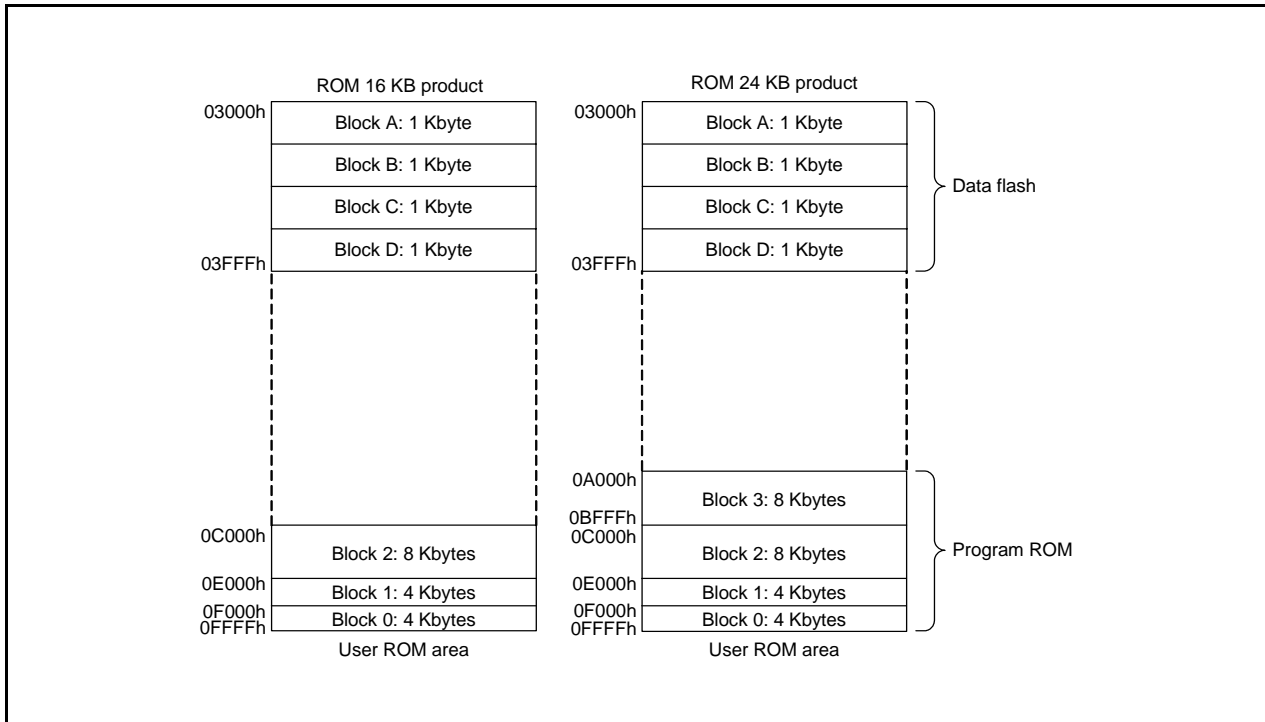

Figure 32.1 R8C/35A Group Flash Memory Block Diagram (1)
- The number of blocks and block division vary with the MCU. Refer to **Figures 32.1 and 32.2 R8C/35A Group Flash Memory Block Diagram** for details.
Figures 32.1 and 32.2 show the R8C/35A Group Flash Memory Block Diagrams.